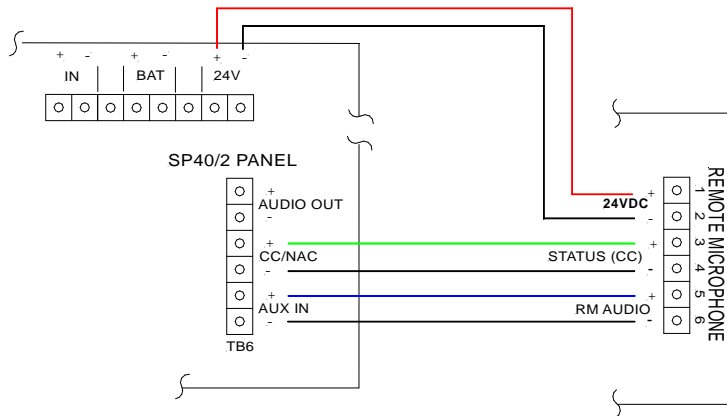
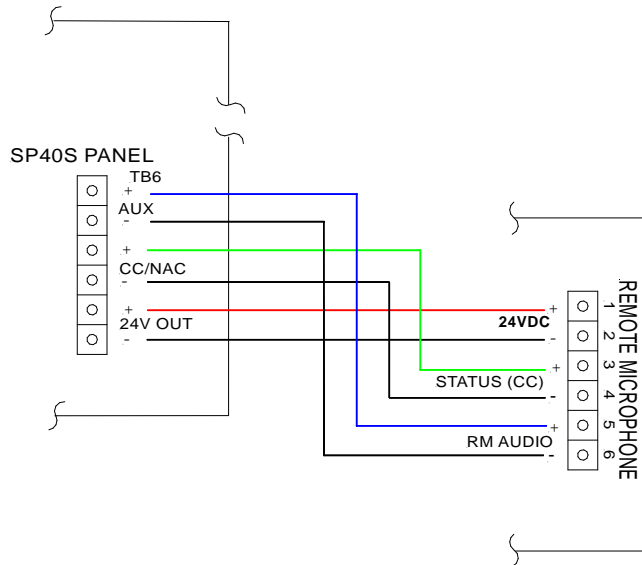

Figure 6. Wiring Diagram SPRM to SP40/2
Figure 7. Wiring Diagram SPRM to SP40S
9. Connect the SPRM to the SP40. Figure 6 shows the proper wiring connections for the SPRM to the SP40/2. Figure 7 shows the proper wiring connections for the SPRM to the SP40S.